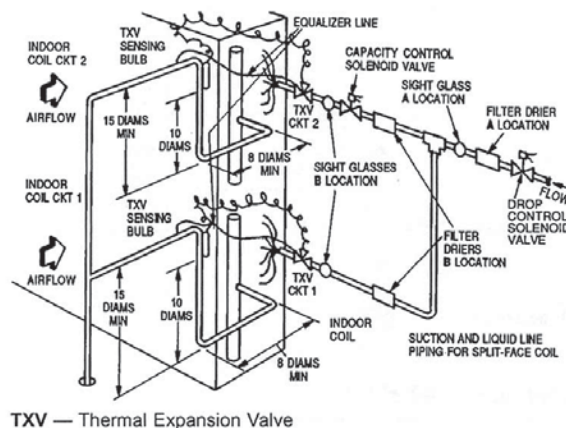

Fig.4 – Location of Sight Glass
INSTALL FILTER DRIER (S) AND MOISTURE INDICATOR (S) — Every unit should have a filter drier and liquid-moisture indicator (sight glass). In some applications, depending on space and convenience requirements, it may be desirable to install 2 filter dryers and sight glasses. One filter drier and sight glass may be installed at **A** locations in Fig. 4. Or, 2 filter dryers and sight glasses may be installed at **B** locations.
INSTALL LIQUID LINE SOLENOID VALVE — SOLENOID DROP—It is recommended that a solenoid valve be placed in the main liquid line (see Fig. 4) between condensing unit (38AE) and fan coil (40RR). (A liquid line solenoid valve is required when the liquids line length exceeds 100-ft [30.5 m] or when the condensing unit is connected to the chiller barrel in a built-up chiller system.) This valve prevents refrigerant migration (which causes oil dilution) to the compressor during the off cycle at low outdoors-ambient temperatures. The solenoid should be wired in parallel with the compressor contractor coil. This means of electrical control is referred to as solenoid *drop* control.
INSTALL LIQUID LINE SOLENOID VALVE (OPTIONAL) CAPACITY CONTROLS — If 2-step cooling is desired, place a solenoid valve in the location shown in Fig. 4.